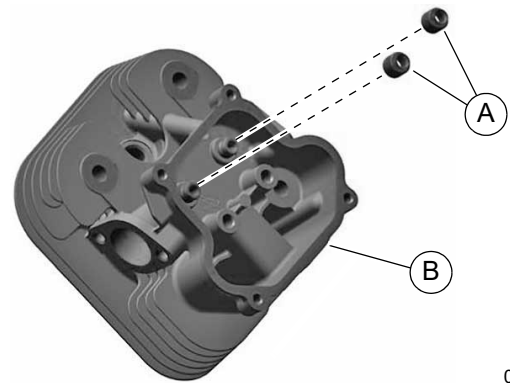

Figure 14-37. Install Valve Seals
1. See Figure 14-37. Install intake and exhaust valve seals (A) on head assembly (B).